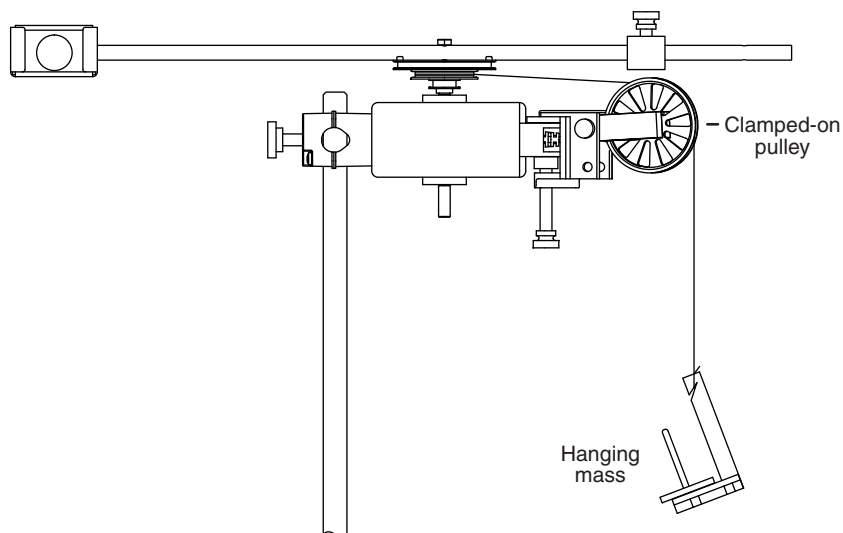

Figure 2.3: Setup for determining rotational inertia
- Clamp the RMS on the mounting rod so that the pendulum can rotate in a horizontal plane (see Figure 2.3).
- Clamp a pulley to the RMS and set up a string and hanging mass (approximately 20 g to 30 g) as shown in Figure 2.3. Wind the string a few times around the middle step of the three-step pulley. Adjust the angle and height of the clamped-on pulley so that the string will unwind and run over the pulley with as little friction as possible.